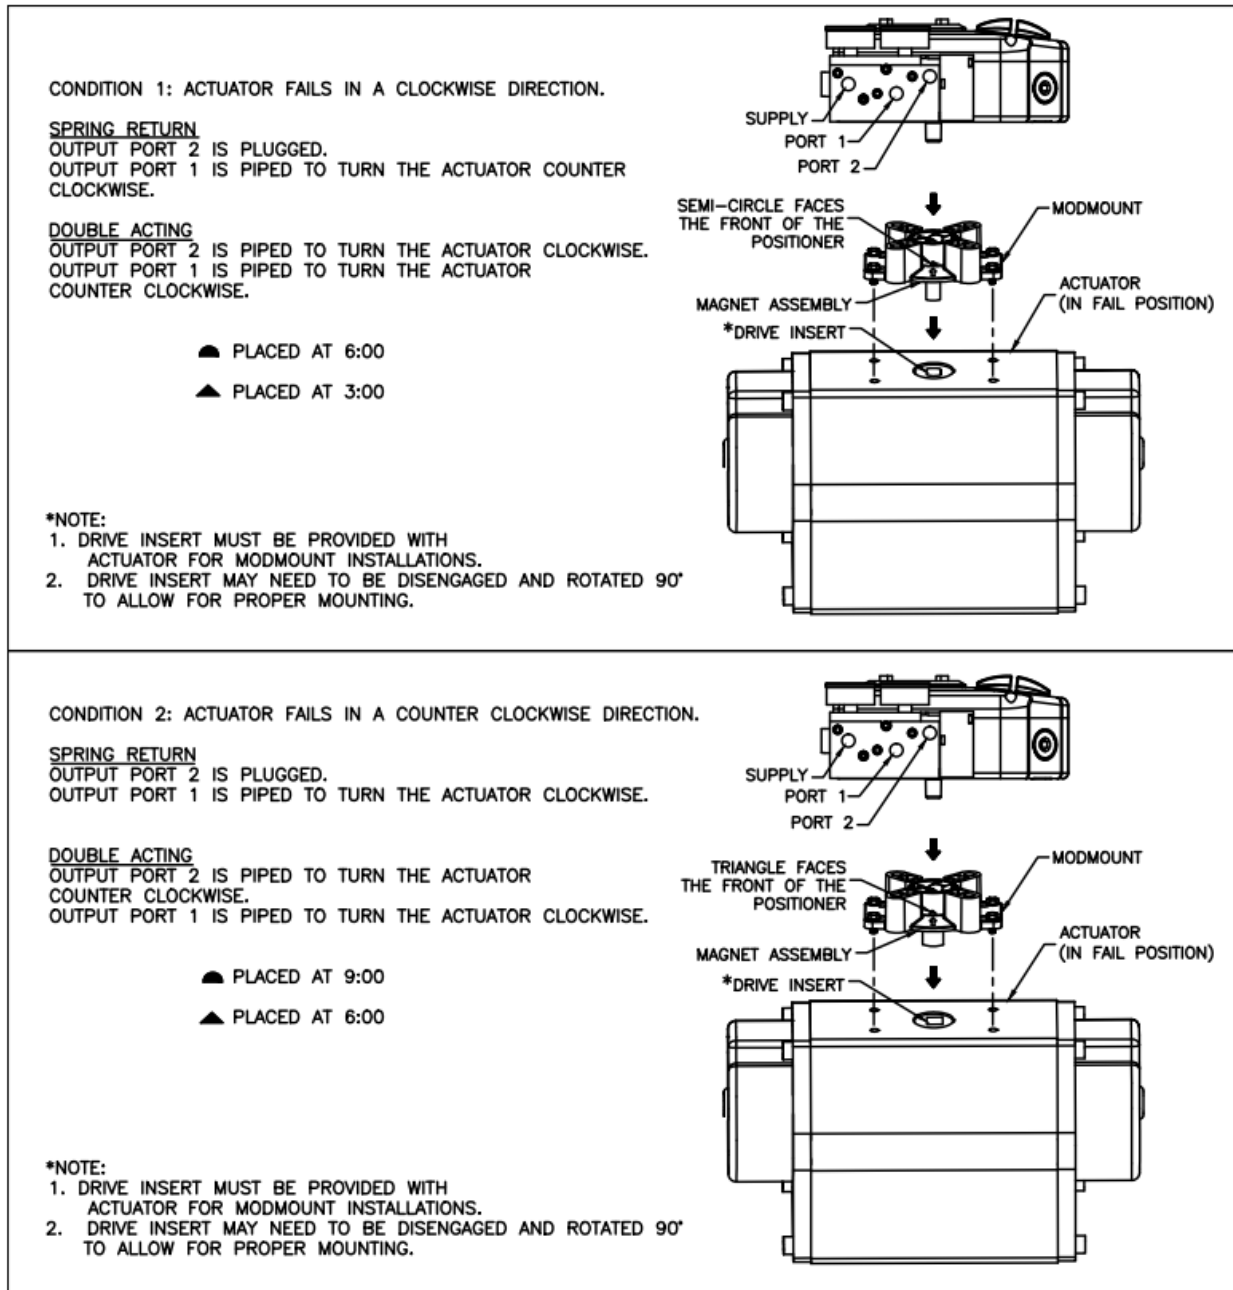

Figure 3-2
Step 2. The visual indicator needs to be properly oriented. Use the symbols on the bottom of the indicator to mount as shown in Condition 1 or Condition 2. (see figure 3-2). Condition 1 and Condition 2 show the placement of the indicator with respect to the positioner housing while the actuator is in the fail position.